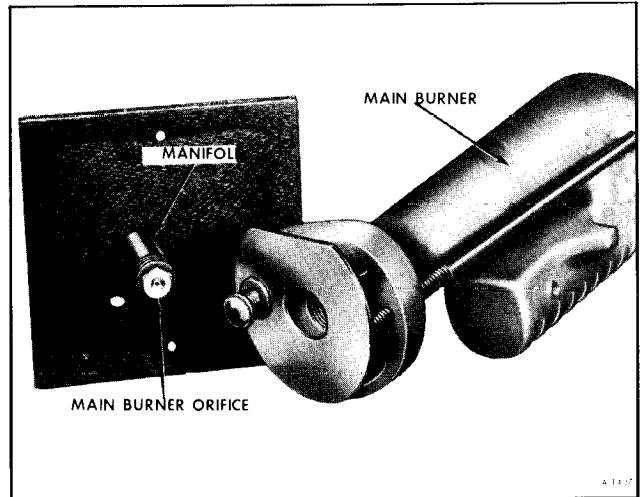

Figure 41—Main Burner Orifice
5. Disassemble manifold pipe from burner and remove burner orifice. See Figures 41 and 20.